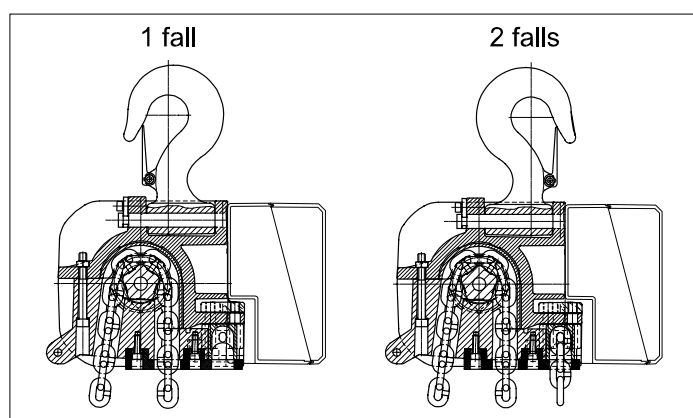

Figure 4-10
2. Attach the hook into the slot in the hoist body so that the hook neck and the ball of the hook are in the same line of the correct fall marking at the hoist body (see fig 4-10).